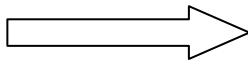

Figure 17: measuring mode
- set all the DIP switch positions to 0 as indicated in Fig.17 on the left; start from position 1 and move towards position 8!